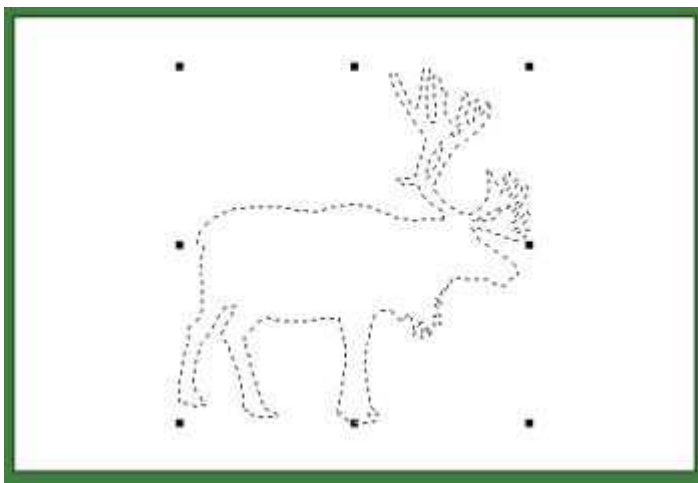

Figure 2
- 2 Holding the left mouse button drag a box around your logo, it will go Dotty, see Figure 2. From the Main Toolbar select the Shading 45° Icon.